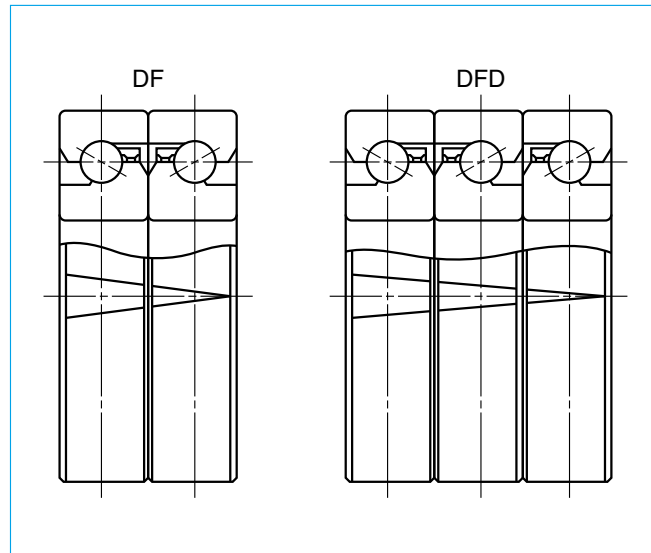

Fig. 2 Examples of combination and "V" mark
- **Fig. 2** shows examples of combinations. There is "V" mark on the outside surface of the bearing to avoid misarrangement. A complete letter "V" should be formed when all bearings align correctly to form a set.